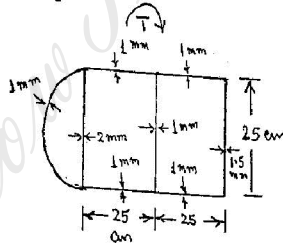

Fig.6
- (b) Find the shear flow and twist per unit length of the three cell tube made of Aluminium as shown in the fig.6 and subjected to a Torque 75,000 N-cm. $E = 70 \text{ Gpa}$.